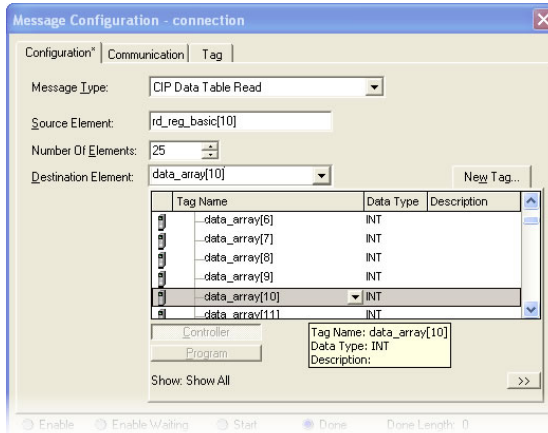

Figure 98: Selecting the Destination Element
- iv) For the Destination Element, either directly type in “data_array[10]”, or select element #10 in the data_array tag via the drop-down box (refer to Figure 98). The destination could be any offset in the data_array tag, as long as the offset plus the Number Of Elements (25) does not exceed the tag’s defined size (100).